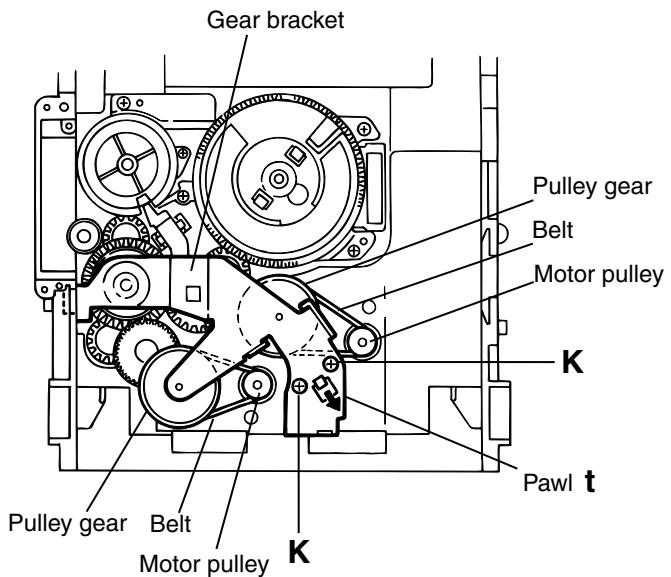

Fig.18
■ Removing the actuator motor and belt (See Fig.18~21)
(See Fig.18).
4. Remove the belts respectively from the right and left actuator motor pulleys and pulley gears(See Fig. 18).